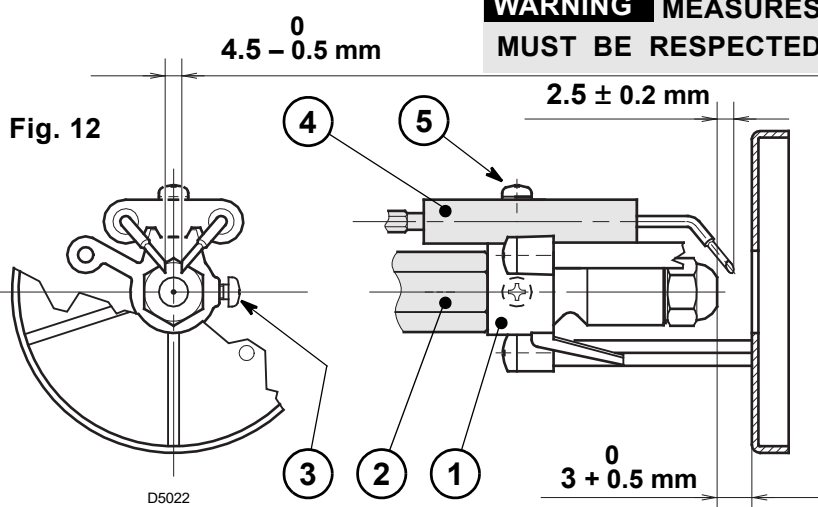

Fig. 12
- Hook the burner to the flange (1), by removing the blast tube (2) after loosening the fixing screws (3).
- Remove the small cables (4) from the electrodes and the diffuser disc-holder assembly (5) from the nozzle-holder assembly after loosening its fixing screw (3, Fig. 12, page 7).
- Screw the nozzle (6) correctly and tighten it as shown in the figure.
4.3 ELECTRODES ADJUSTMENT (see Fig. 12)
- Replace the nozzle (see Fig. 10, page 6) and check the correct position of electrodes (Fig. 12, page 7).